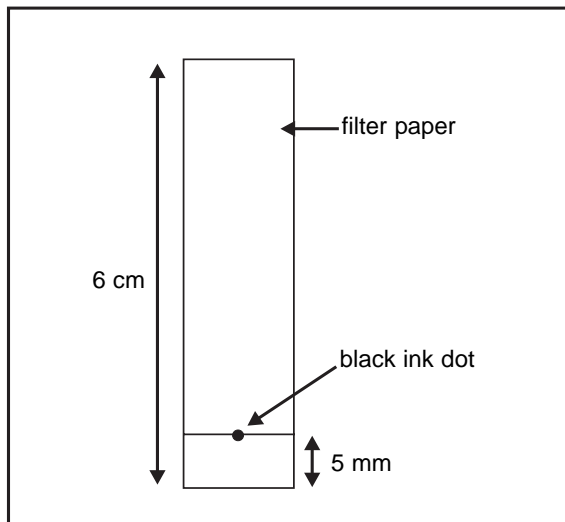

FIGURE 1
1. Use the black permanent marking pen and the ruler to make a small ink dot about 5 mm away from one edge of the 6 cm long strip of filter paper (see fig.1). Try to use a pen with a fine tip. If you only have a broad tipped pen, try to make the dot as small as possible otherwise the ink may spread too much during the separation.
- Q1. Is substance A a compound, a homogeneous or a heterogeneous mixture, or an element? Give a reason for your answer (See Figure 1).